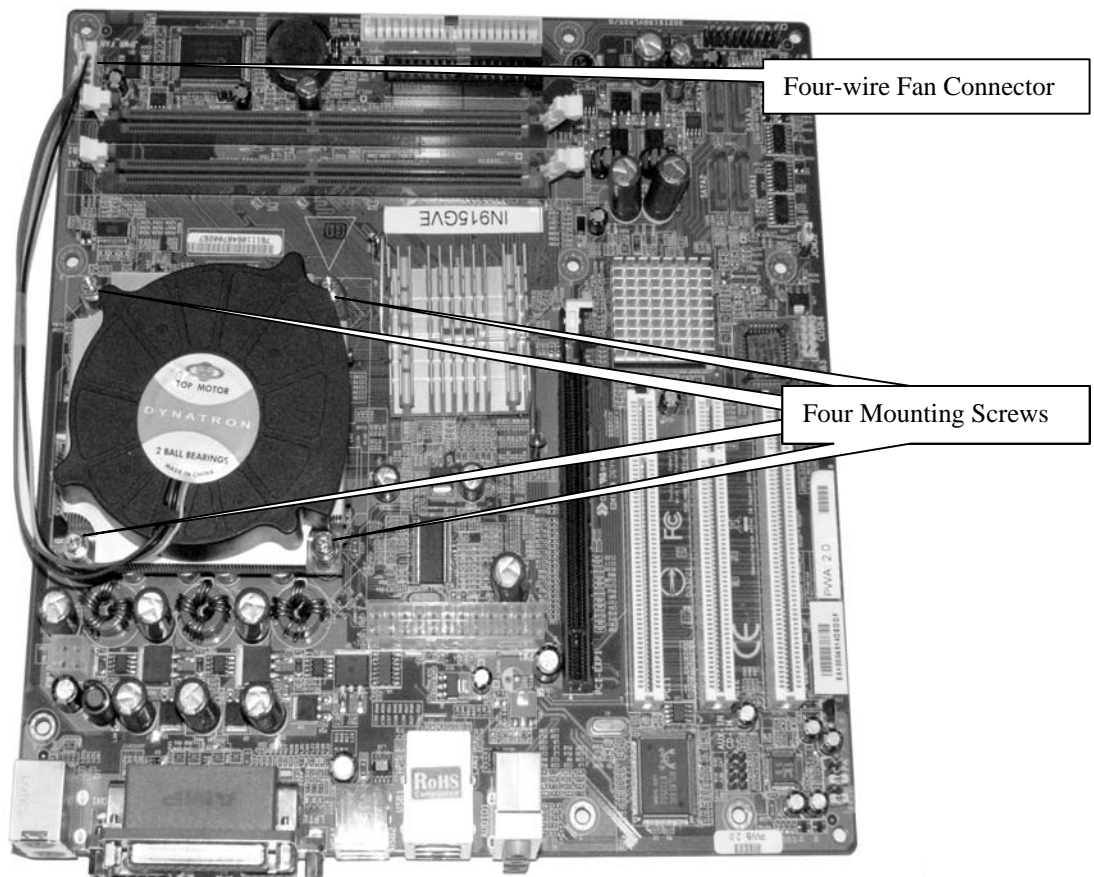

Figure 4
5. To remove the Dynatron Fan Assembly from the computer board, locate the four mounting screws on the fan assembly as shown in Figure 4. Loosen the four screws which will release the fan assembly from the computer board. Unplug the four-wire fan harness from the “CPU FAN” connector on the computer board and remove the Fan Assembly from the computer board.